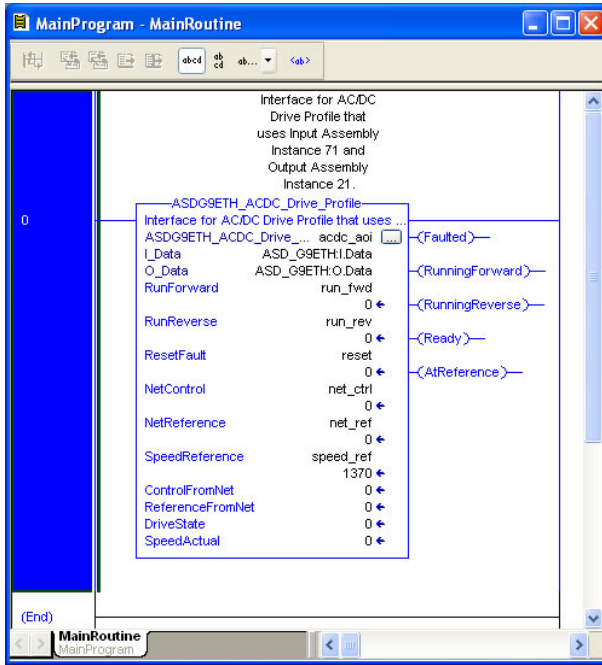

Figure 92: Configure AC/DC Drive Profile AOI
- 10) Edit the AOI according to Figure 92.